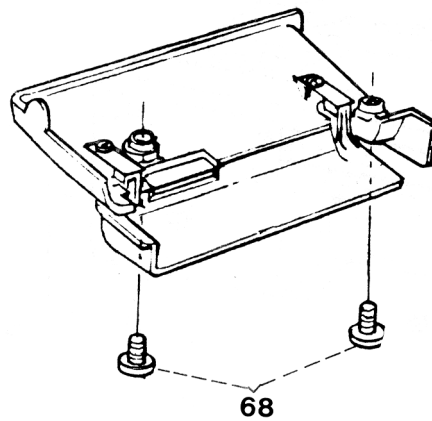

Fig. 24
- Turn out both screws 68 (fig. 24).